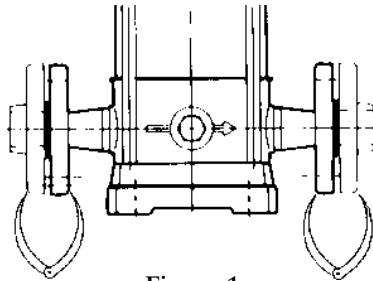

Figure 1
- Angular alignment of the suction and discharge flanges can best be accomplished using calipers at the bolt locations. See Figure 1.